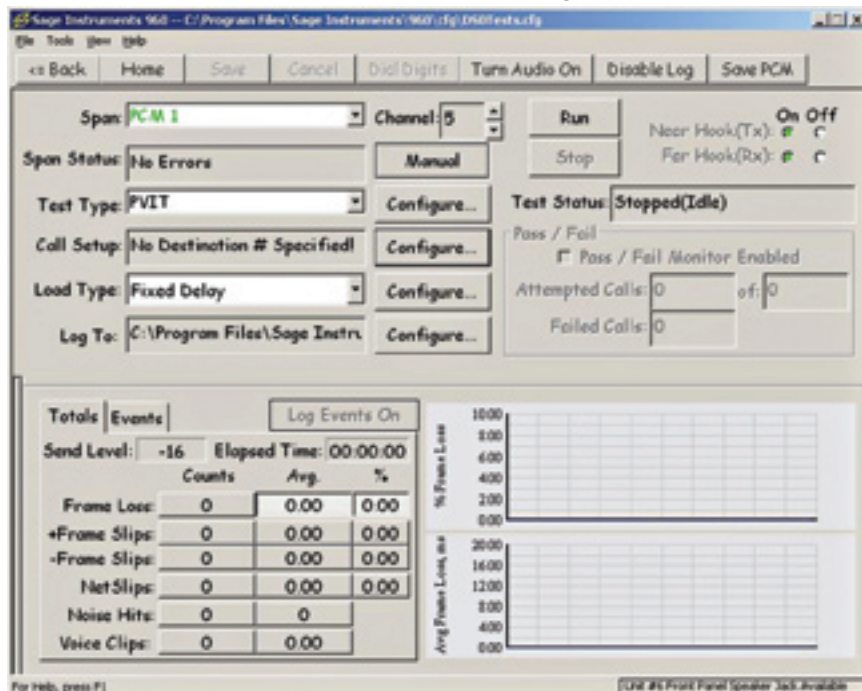

Figure 61
The SAGE PVIT test utilizes seven (7) screens for configuration of the test parameters (see figures 61 through 68). PVIT provides detailed diagnostic information about events that impact voice clarity over packet switched networks, including: voice frame losses, voice frame slips (also known as jitters), voice clippings and noise hits
Figure 61 shows the main test screen with the "PVIT" test selected and saved. When clicked the four (4) "Configure" buttons down the